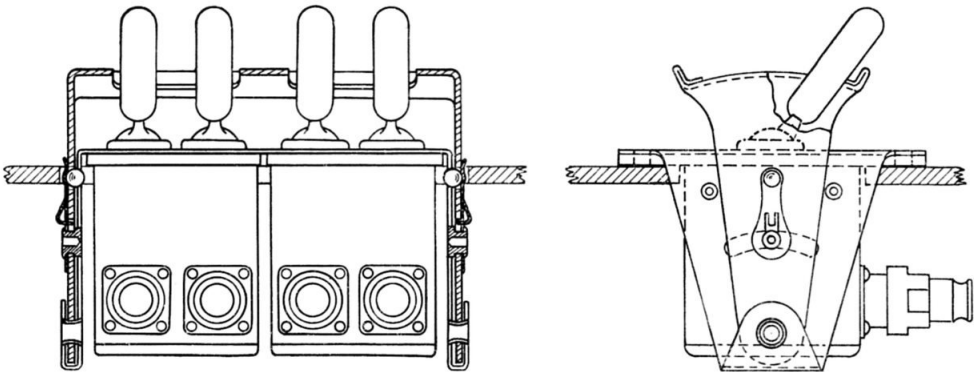

Fig. 1. Multiple master control ignition switch, No. 3
3. The multiple master control ignition switch, No. 3 (*fig. 1*) consists of two 2-way switchboxes (Stores Ref. 5CW/1540) assembled side by side, with a device by which all four switches can be operated simultaneously, and is used for controlling the magnetos of twin-engined aircraft. The switchboxes are identical with the 2-way ignition switchboxes, Type A, except that they are fitted with special elongated dollies to engage with a multiple handle.